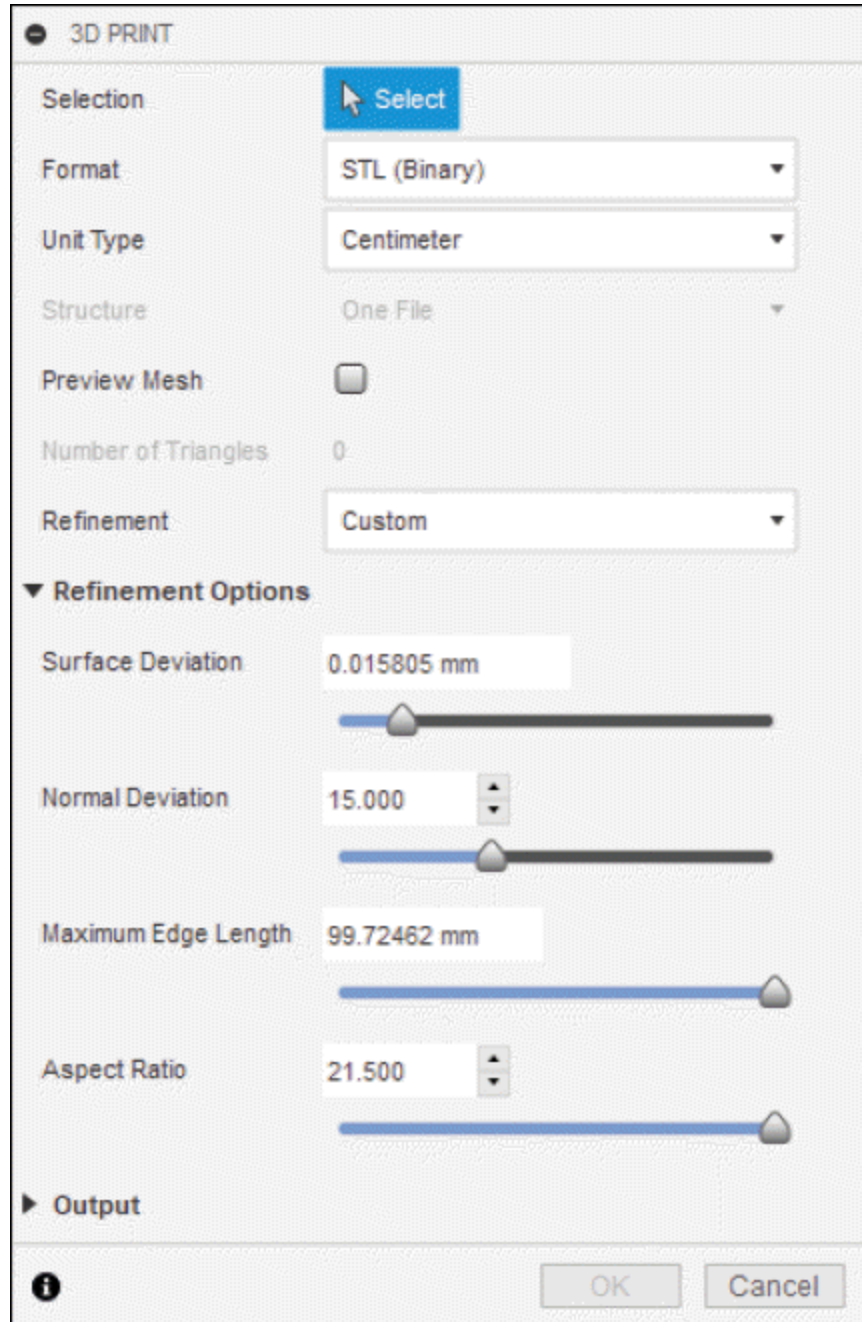

Figure-36. Refinement Options
- Select desired level of resolution for printing in **Refinement** drop-down menu. There are four resolution in this drop-down. If you select the **High**, **Low**, and **Medium** command then the **Surface deviation**, **Normal deviation**, **Maximum Edge Length**, and **Aspect Ratio** parameters in the **Refinement Options** section will be adjusted automatically. (Click on the arrow before **Refinement Options** node to expand the section.) If you want to adjust these parameters manually then you need to select the **Custom** option in **Refinement** drop-down; refer to Figure-36. Note that your 3D printing machine should be able to print the model at specified resolution. A higher resolution will take more time and power in 3D Printer. Unnecessarily high refinement should be avoided in 3D printing.